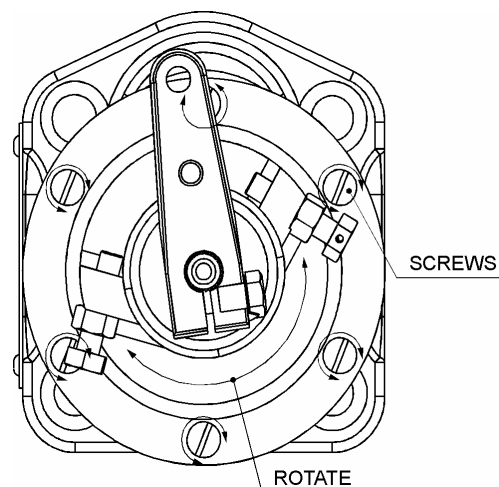

Fig. 501
5.5.a Adjusting position of the control lever (see Fig. 501)